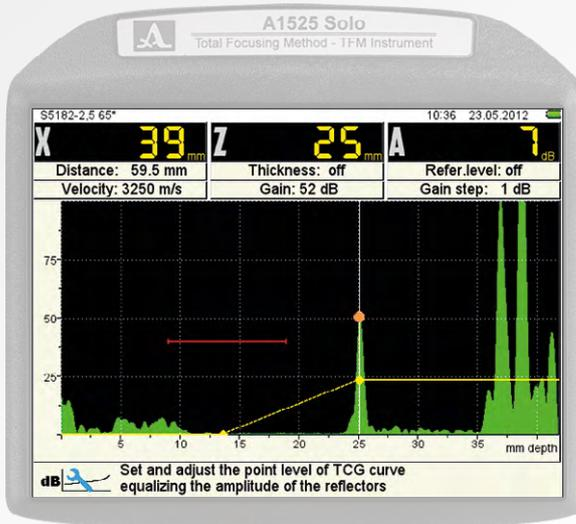

FIGURE 34
- 2) Press the  key to capture the signal. A yellow dot will appear at the signal peak. See Figure 34.